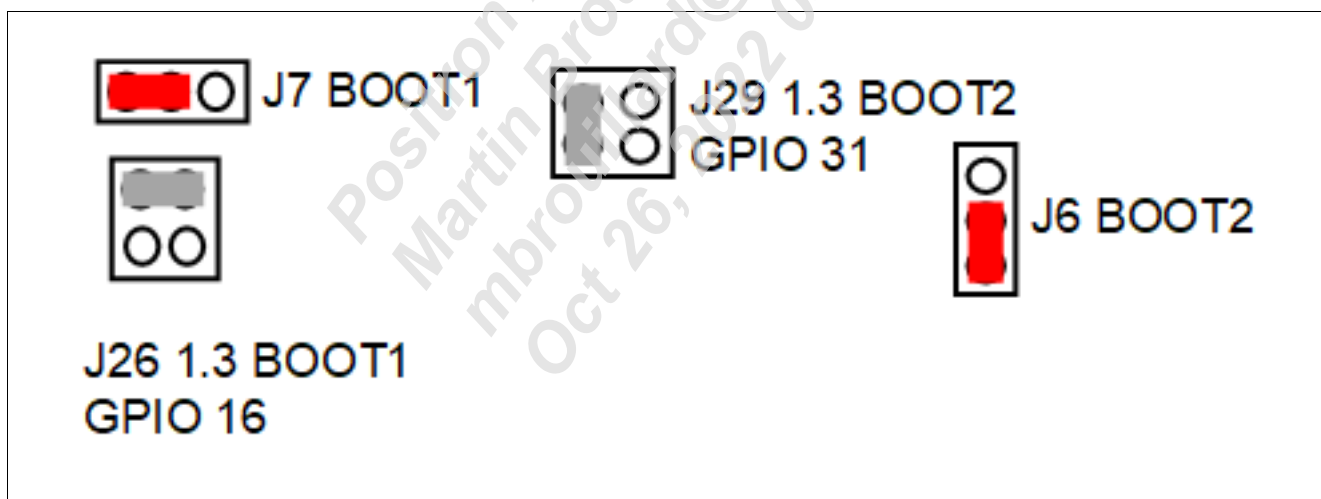

Figure 3 EASY 98900 UART Boot Jumper Configuration
1. Not all boot modes are available for use on the EASY 98900 because the golden finger edge connector on the EASY PRX126 REF BOARD SFP+ has a limited number of pins available. Due to this limitation, SFP+ reference boards lead to an invalid boot mode (0x3) that triggers a UART update. To avoid this situation, configure the jumpers according to Table 1 and Figure 3 so that the EASY PRX126 REF BOARD SFP+ boots from UART0 (0x4). Refer to [\[1\]](#) for more information on boot modes.